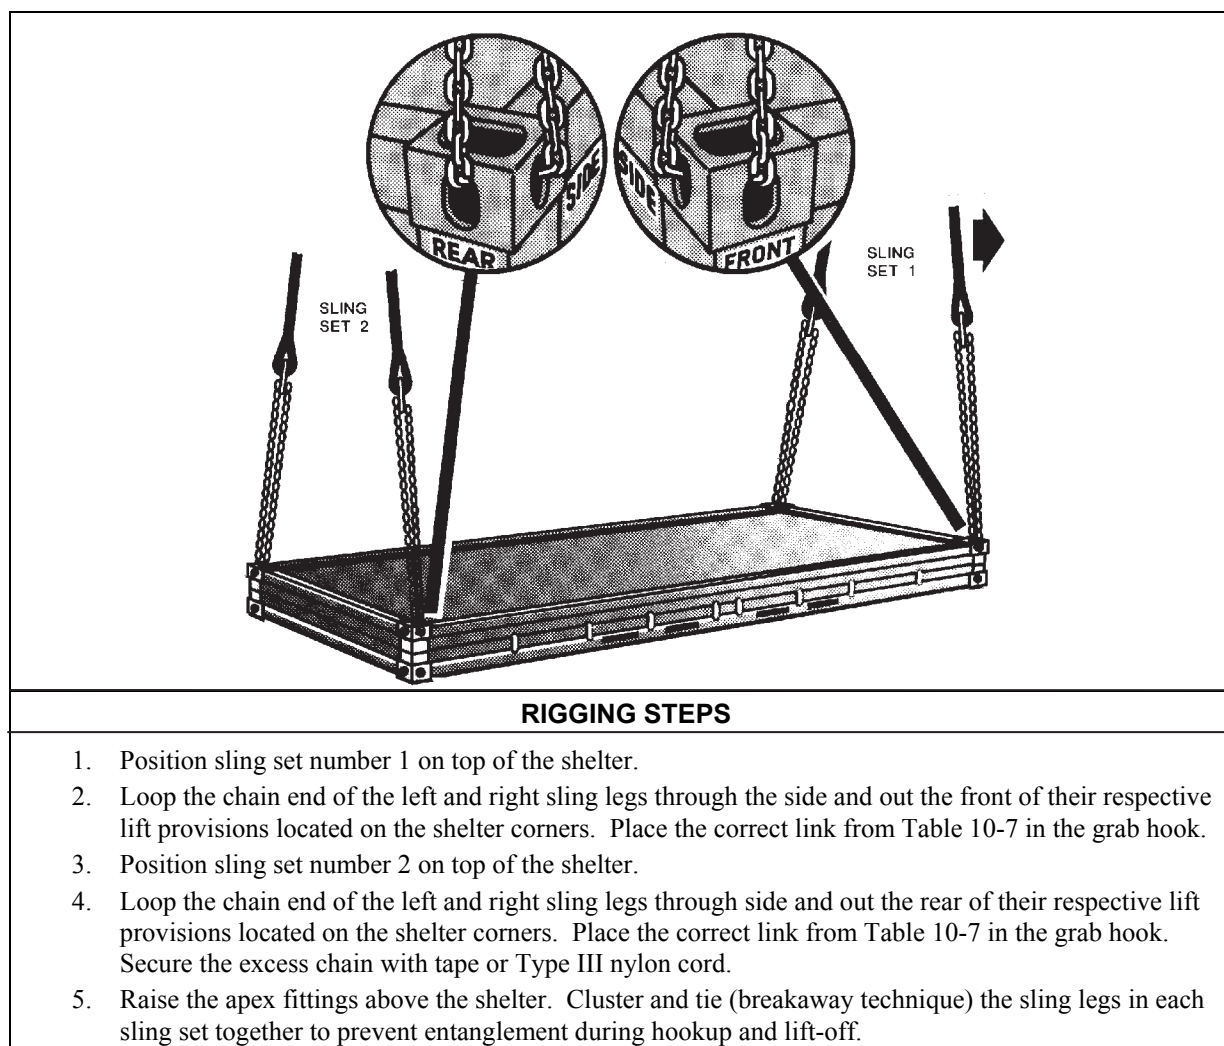

Figure 10-7. Shelter, Knockdown, 8- x 8- x 20-Foot
- **Rigging.** Rig the load according to the steps in Figure 10-7.